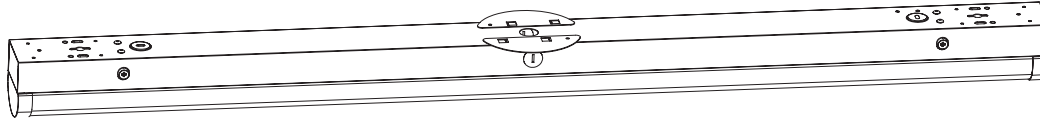

FIG.3
- 1 OPTIONAL - Install the provided junction box cover to the fixture. (Figure 3)